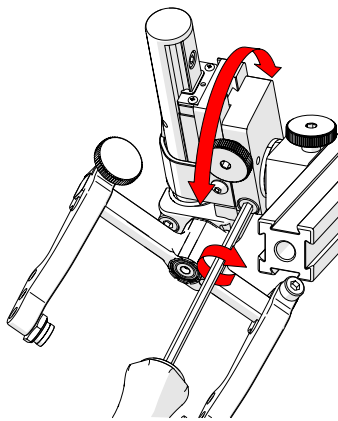

Fig. 156 - Rotate to position
3. Rotate the main body of the probe holder until it is at the desired angle (Fig. 156).
4. Tighten the longitudinal adjustment screw (Fig. 156).